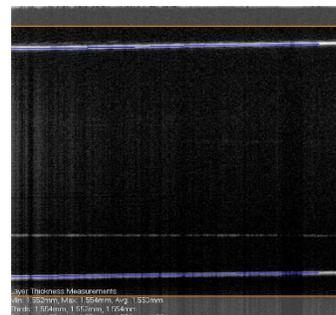

Figure 2
3. Adjust the “Dynamic Range Bottom” slider up to increase the contrast of the image. The top and bottom edge should be visible as two bright lines (Figure 2).